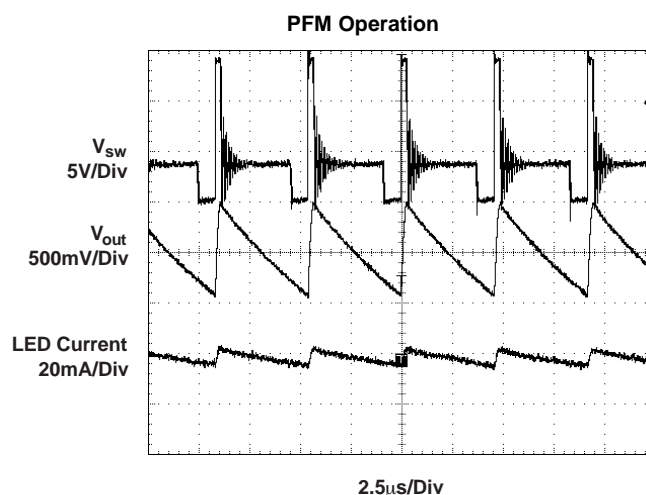
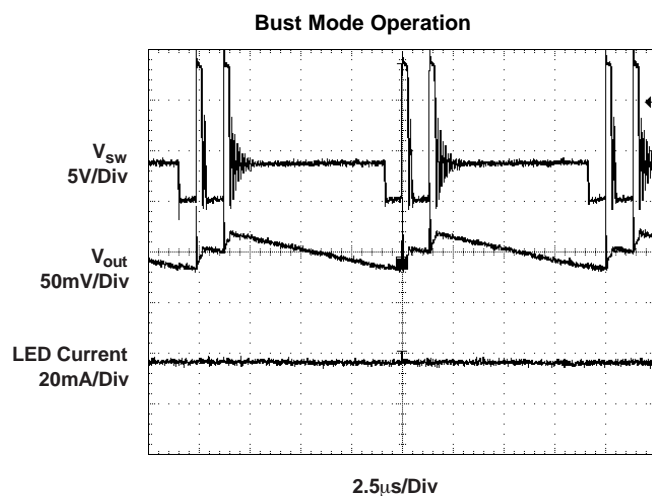

Figure 13.
Figure 14.
If the converter can support the desired LED current, the next step is to calculate the converter switching frequency at the operation point, which must be $\leq 1 \text{ MHz}$. Also the converter switching frequency should be much higher than the applied PWM frequency at the CTRL pin to avoid non-linear brightness control. Assuming the converter shows no double pulses or pulse bursts (Figure 13, Figure 14) on the switch node (SW) the switching frequency at the operation point can be calculated as:
Assuming the converter does not show double pulses or pulse bursts on the switch node (SW), the output voltage ripple is calculated as (see Figure 13, Figure 14):